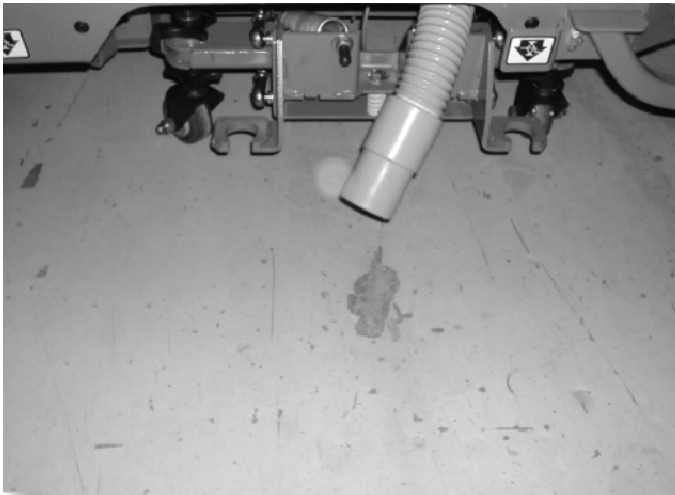

FIG. 1
(Refer to FIG. 1 thru 10)
1. Disconnect and remove the rear squeegee from the machine. (Refer to FIG. 1)